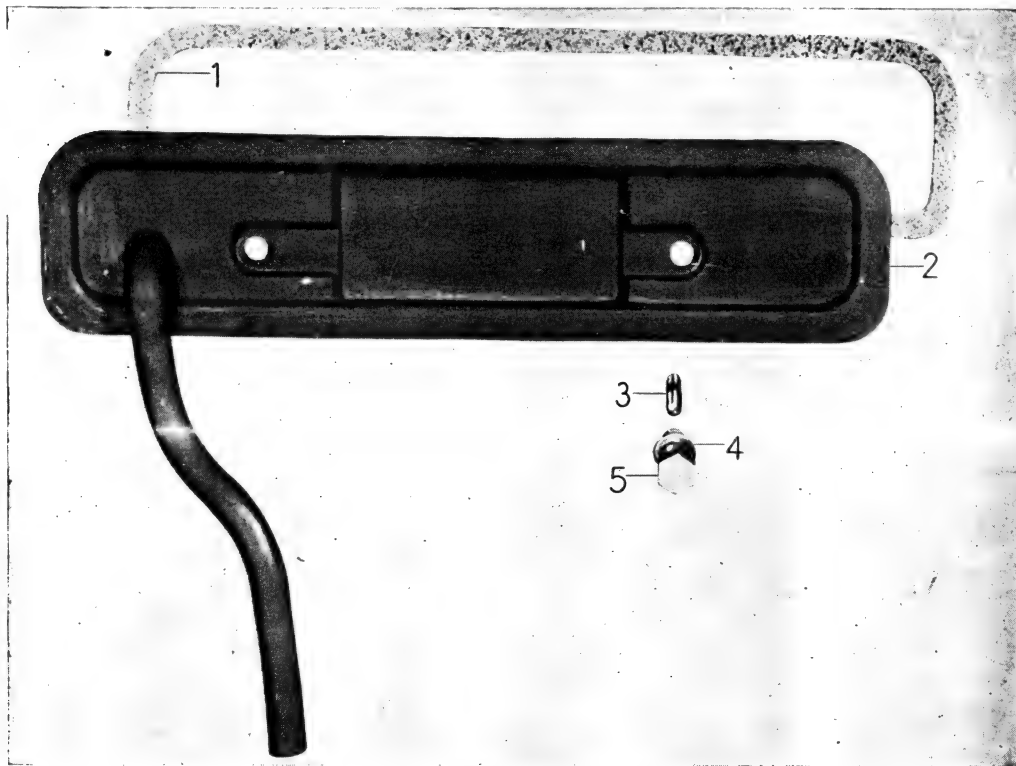

Figure 4 — Valve Tappet Chamber Cover Assembly
**VALVE TAPPET CHAMBER COVER ASSEMBLY (Fig. 4)**